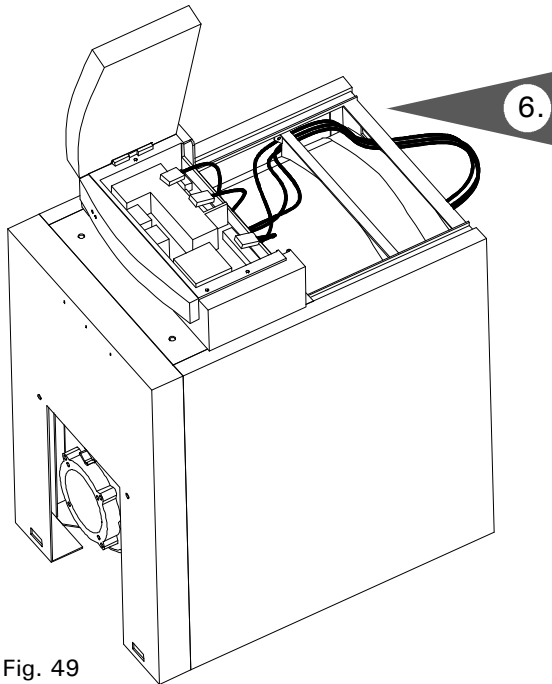

Fig. 49
1. Run the #41 plug-in connector cable of the Vitotronic control down behind the side panel of the boiler and out through the bottom. (Fig. 49)
2. Connect the female #41 plug of the burner to the male #41 plug of the Vitotronic control. (Fig. 49)